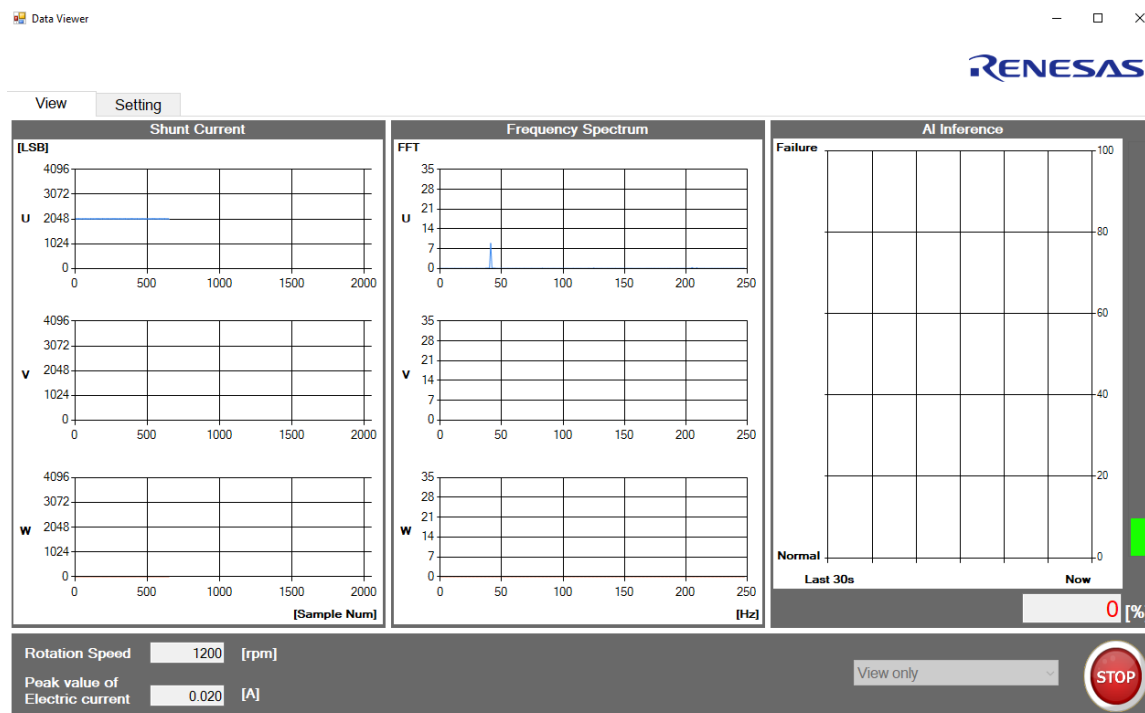

Figure 12 Data collection tool display
- **Figure 12 shows the results of RX23T demo.**